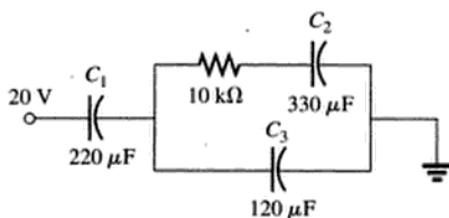

FIG. 10.122
51. For the configuration in Fig. 10.122, determine the voltage across each capacitor and the charge on each capacitor under steady-state conditions.